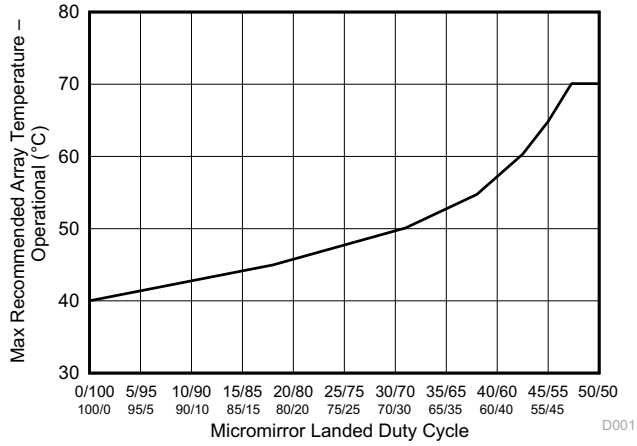

Figure 6-1. Maximum Recommended Array Temperature (Derating Curve)
- (13) Per Figure 6-1, the maximum operational array temperature should be derated based on the micromirror landed duty cycle that the DMD experiences in the end application. Refer to Section 7.8 for a definition of micromirror landed duty cycle.
- (14) Long-term is defined as the usable life of the device.
- (15) Short-term is the total cumulative time over the useful life of the device.